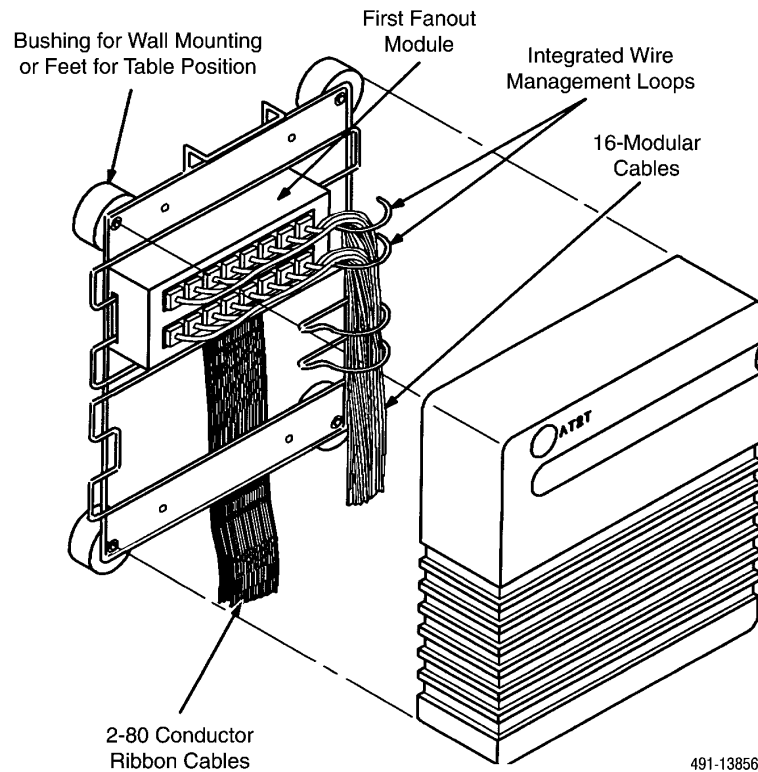

Figure 2-13. IPC-1600 Ports Cabinet Assembly
6. Route the ribbon cables behind the wire-frame assembly of the cabinet with the "lead 1" identifiers to the left as shown in Figure 2-13. The connectors on the fanout module and the ribbon cables are keyed for proper alignment. Be sure the retaining clips are properly secured when connecting the ribbon cables to the fanout module.
8. The fanfold module snaps into the wire-frame assembly from the front of the assembly (see Figure 2-13). Put the slot on the left side of the fanout module over the wire tab on the left side of the wire-frame assembly. Next, slide the right side of the fanfold module into the wire-frame assembly until the two slots on the right of the module engage with the wire tabs.